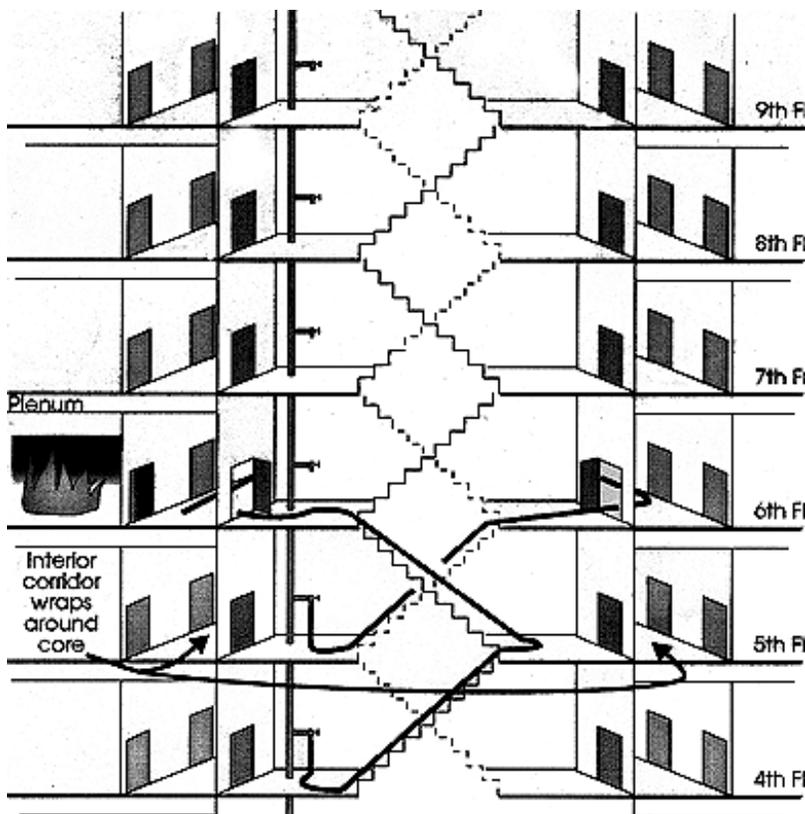

Fig. 9-6
9.4.6 Scissor stairs create additional complexities and will usually require the stretching of four or more lengths of hose (see Fig. 9-6). This information should be included in CIDS.